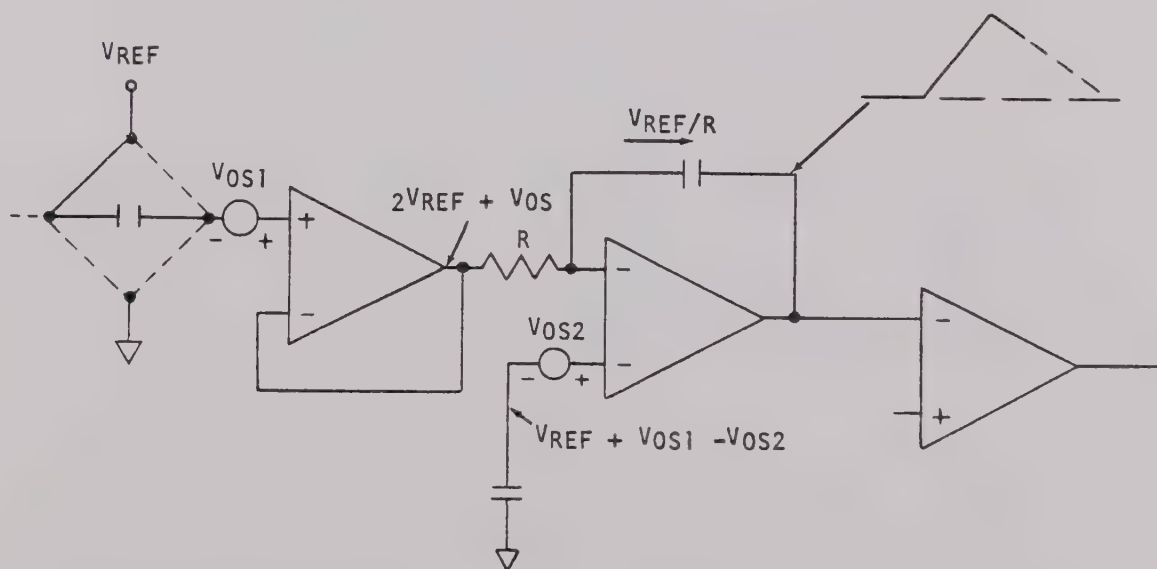

FIGURE 6-3. A/D Converter Function (Sheet 2 of 2)
a. Auto-Zero. The auto-zero period (A, Figure 6-3) is 100 milliseconds in length, which corresponds to 10,000 clock pulses. During this period, reference voltage V_{REF} (see subparagraph d) is stored on capacitor C124. Capacitor C117 stores $V_{REF} + V_{OS1} - V_{OS}$.
b. Signal-Integrate. The signal-integrate period (B, Figure 6-3) is 100 milliseconds in length. The A/D input is buffered by U104 (see subparagraph d) and integrated by U103. Positive signals generate a negative-going ramp at the integrator output (pin 14), while negative signals produce a positive-going ramp. The level of the integrated signal at the end of the signal-integrate period is proportional to the average of the applied signal during this period. Since signal integration continues for 100 milliseconds, the A/D converter exhibits high normal mode rejection for ac signals in multiples of 10 hertz, particularly the 50 and 60 hertz line frequencies.
c. Reference-Integrate. The reference-integrate period (C or D, Figure 6-3) is 200 milliseconds or 20,000 counts in length. During this period, the integrator is returned to baseline level by applying a reference voltage of a polarity opposite to that of the signal. A positive-going ramp is obtained by grounding the buffer input, while a negative going ramp is produced by the integration of $2 \times V_{REF}$ (that is, V_{REF} + the voltage stored on C124). The time, or number of clock pulses required for discharge is proportional to the signal input. Digital output is from latches within U106 which store the number of clock pulses required for the integrator to return to baseline level. The maximum count during this period is 20,000 which corresponds to a discharge period of 200 milliseconds or full scale input.